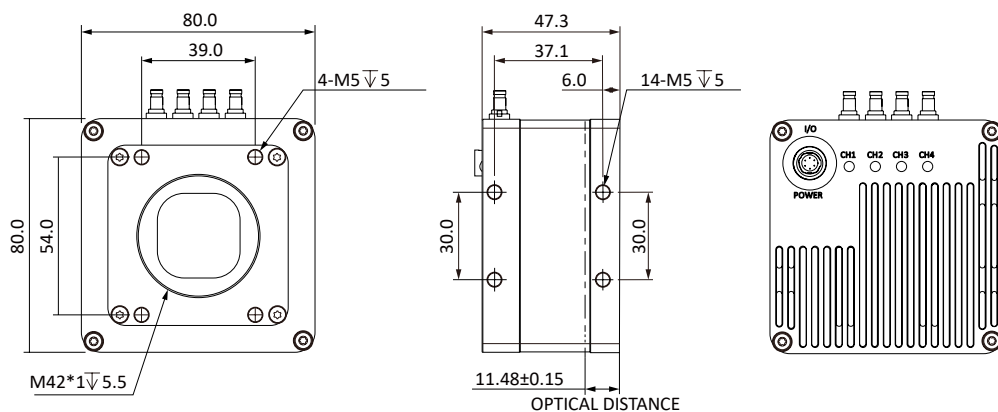

Fig. 1-1: Mechanical Dimensions (in mm) for Cameras with 80 \* 80 \* 47mm housing (M42 interface).
- Fig. 1-1: Mechanical Dimensions (in mm) for Cameras with  $80 \times 80 \times 47$ mm housing (M42 interface).